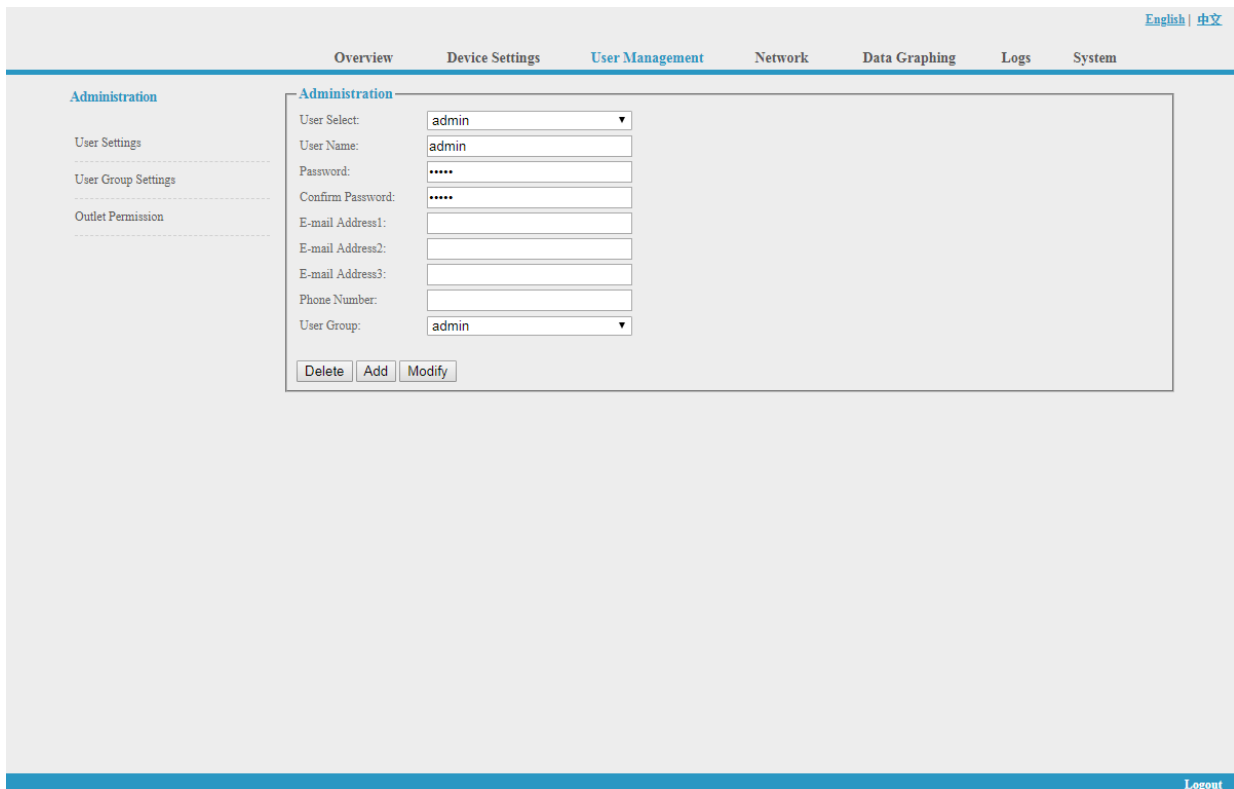

Figure 1-4
Click the User Management from the navigation bar as Figure 1-4 to manage the user, user group and user access rights
- A. User Settings: Click the User settings from the User Management menu as figure 1-4